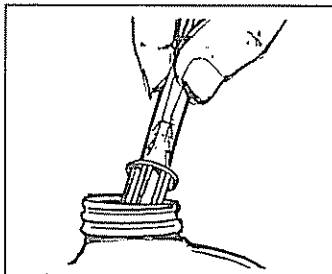

FIG. 10
- Place small filter of the clear, detergent syphoning tube into the detergent container (Fig. 10).